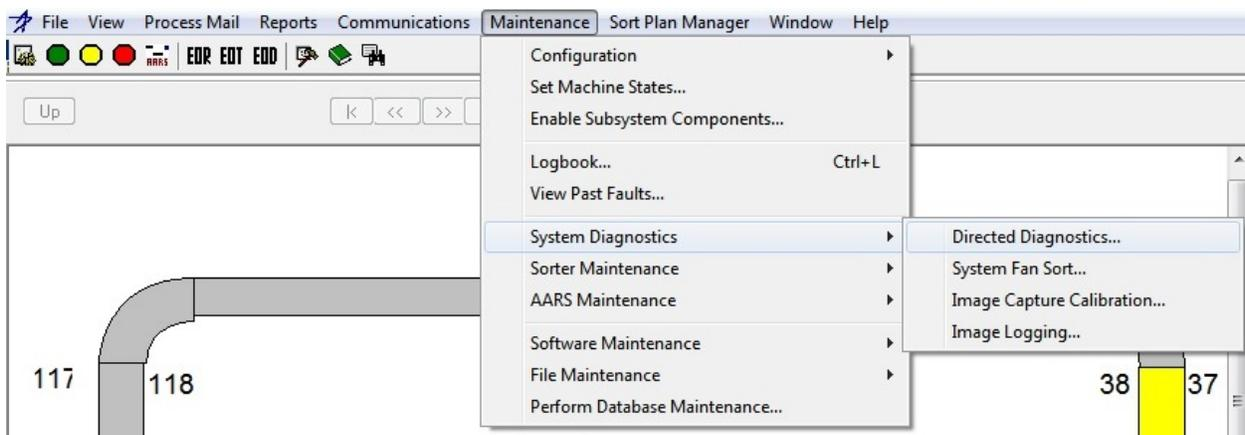

Figure 1-1. Directed Diagnostic Selection Menu
5. Select **Maintenance, System Diagnostics**, and then **Directed Diagnostics** from the top menu of the SMS GUI (Figure 1-1).